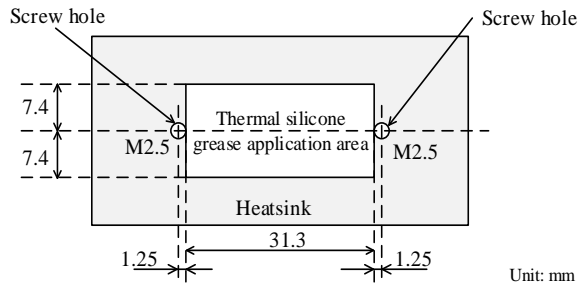

Figure 12-4. Reference Application Area for Thermal Silicone Grease
- Apply a silicone grease within the area indicated in Figure 12-4, below.